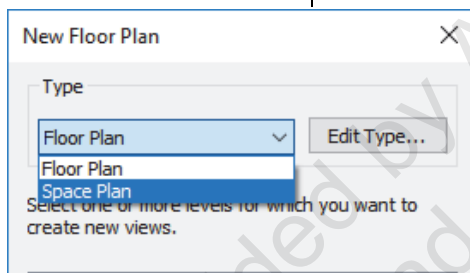
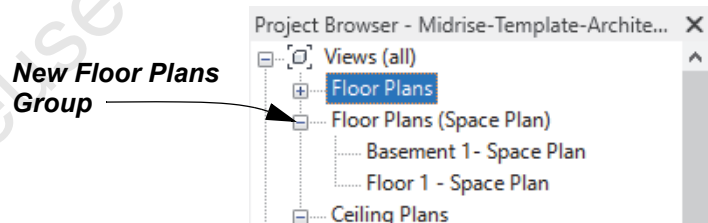

Figure 1-142
Figure 1-143
- When you create a new view, you can select the view type from the drop-down list, as shown for a new floor plan in Figure 1-142. The view is also placed in its own group in the Project Browser, as shown in Figure 1-143.